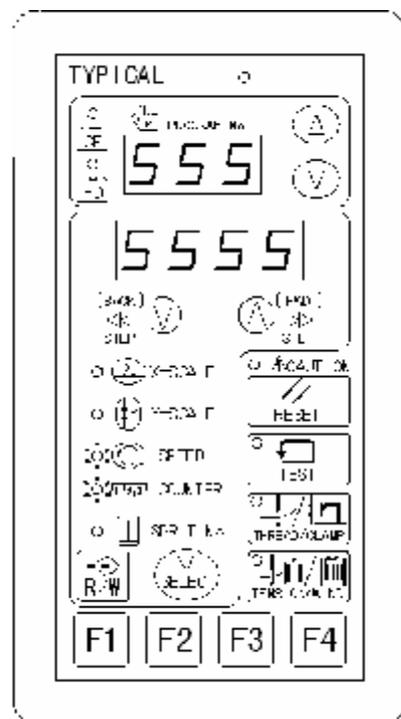

Fig. 5-19
2. In the status as shown in Fig. 5-19, press  key, operation panel will return to set-up value. It can continue sewing after release alarm at this time.